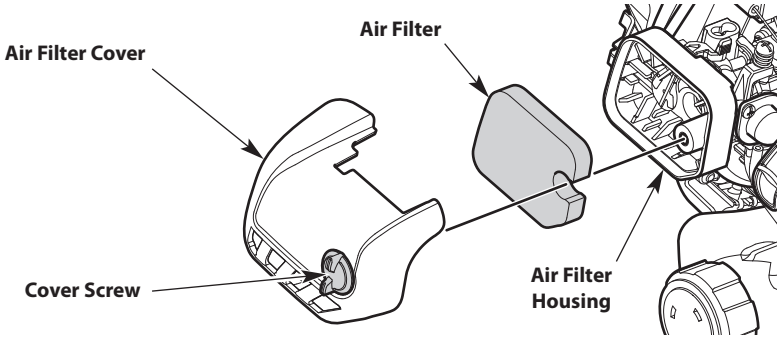

Fig. 26
1. Open the air filter cover by unscrewing the cover screw (Fig. 26).
2. Remove the air filter from the air filter housing (Fig. 26).
6. Reinstall the air filter in the air filter housing (Fig. 26).